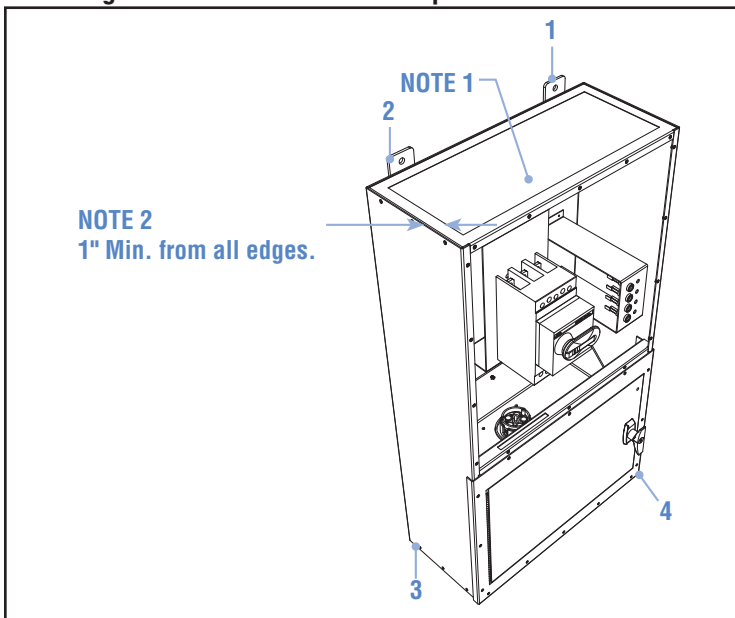

Figure 4
- Mounting ears are provided on positions 1 & 2 on the top and 3 & 4 on the bottom (see figure 4).